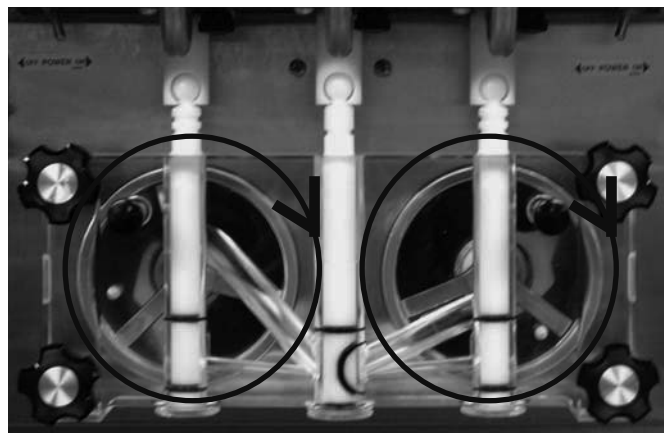

Figure 2-2 Auger Rotation
- D. Check the auger shaft rotation by placing the Main Freezer Power Switch in the ON position, placing both Freezing Cylinder OFF/ON switches in the ON position and pressing the CLEAN button on each of the control panels. Auger shaft rotation is clockwise as viewed through the clear plastic front door (see Figure 2-2).